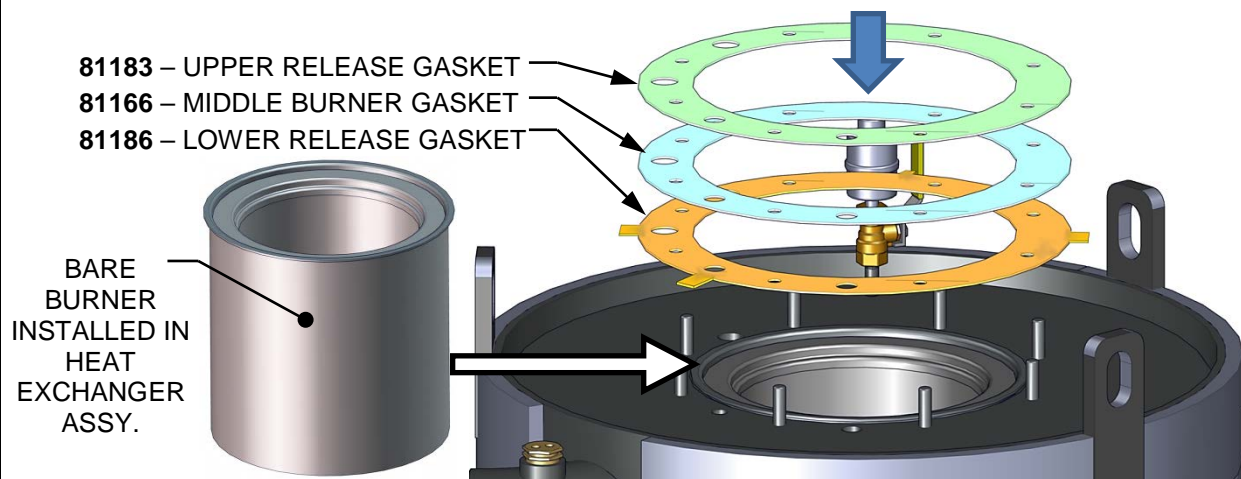

Figure 4-6: Bare Burner and Replacement Gaskets Location
14. Remove and replace the burner gasket(s) (see Figure 4-6, below).
ALL THREE gaskets provided for maintenance MUST be installed during this procedure, as shown in Figure 4-6, even if there is only one existing gasket being replaced. Note that the LOWER RELEASE GASKET has tabs, which the others do not.